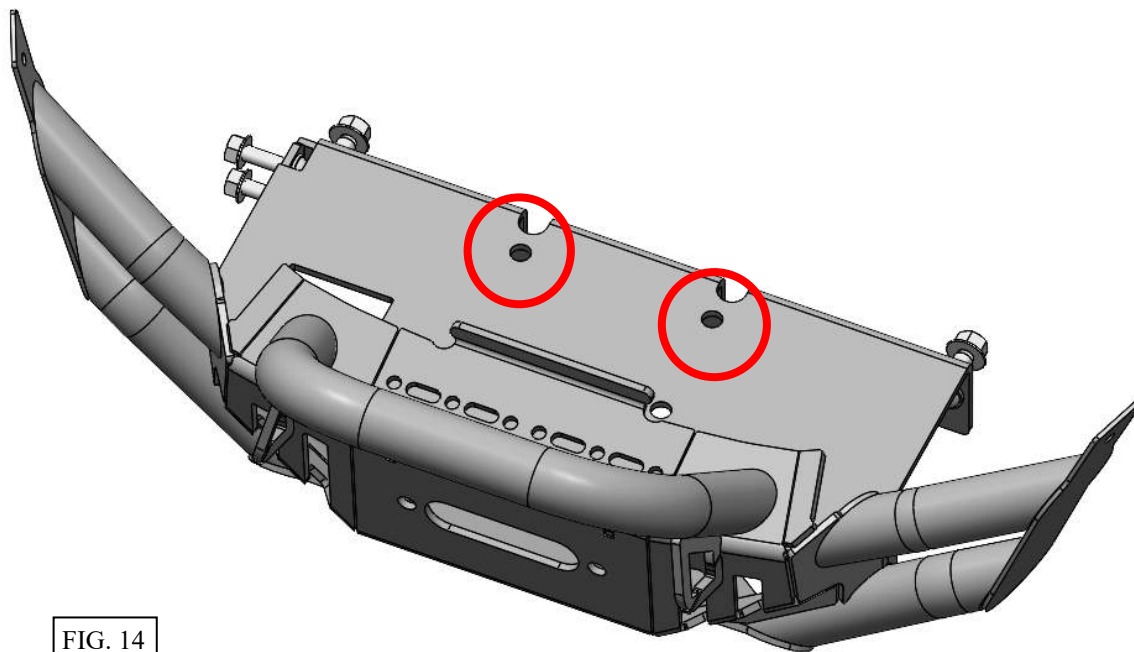

FIG. 14
Note: Two (2) M8 Hex Drive Screws have been provided to be used optionally at the locations shown below to attach a winch to the bumper (Fig. 14).
*It is required to grind down the heads of the two (2) M8 Hex Drive Screws so the bolts that fasten the winch to the bumper do not interfere with the vehicles frame.